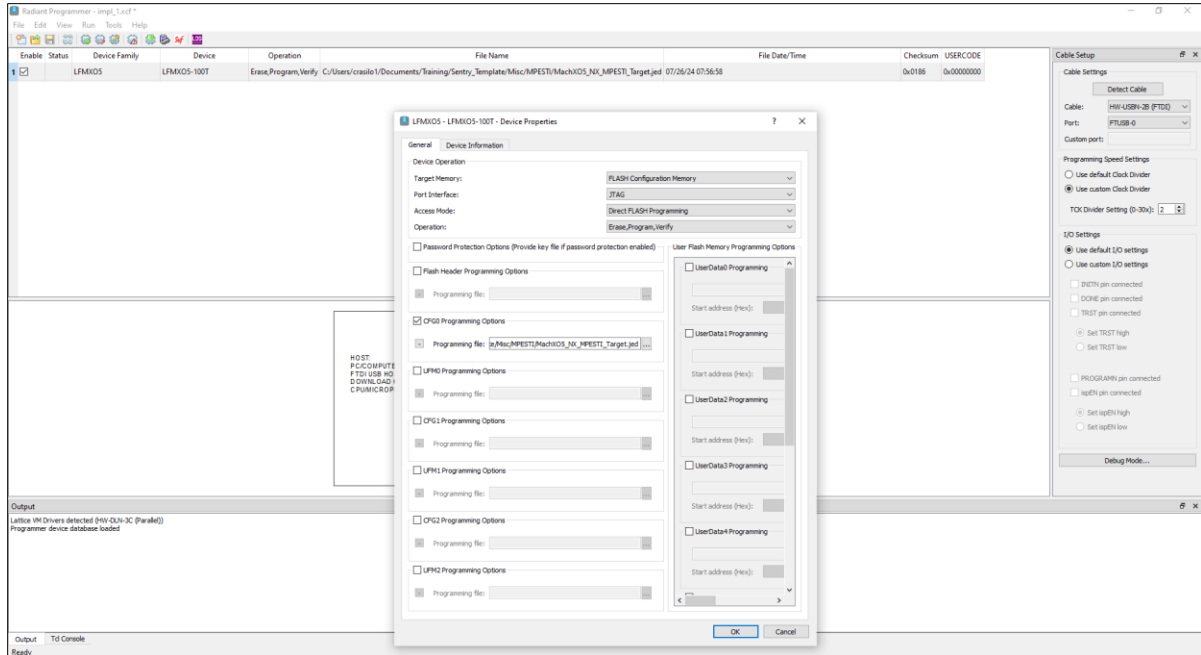

Figure 5.15. MachX05-NX Configuration
- In Radiant Programmer, upload the JED file using either Flash Configuration Memory (Figure 5.15).